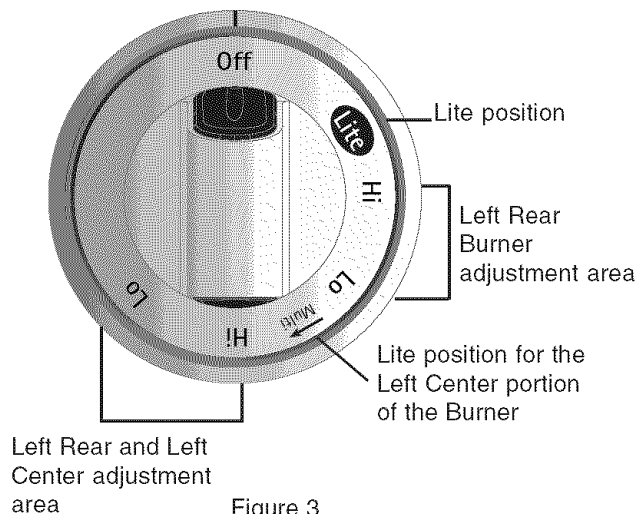

Figure 3
4. Visually check that the left-rear burner has lit. Adjust the flame size by turning the control knob between the **first HI and LO settings** (See Figure 3). **DO NOT** cook with the surface control knob in the LITE position (The electronic ignitor will continue to spark if the knob is left in the LITE position).